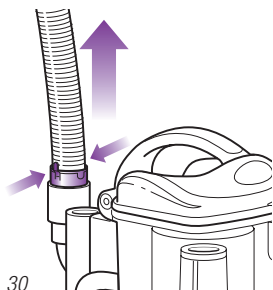

Fig. 30
- Detach the stretch hose from the back of the portable *Lift-Away*® canister by squeezing the tabs together and pulling up. (Fig. 30) Straighten out the hose and look inside for blockages.